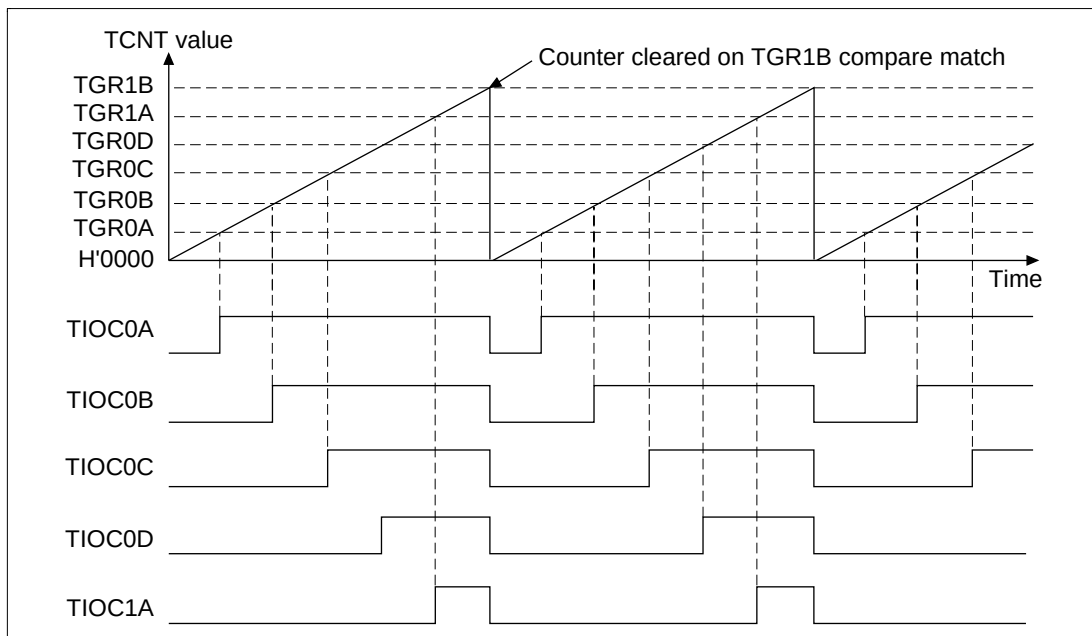

**Figure 12.26 PWM Mode Operation Example (Mode 2)**
**PWM Mode Operation Examples—PWM Mode 2 (Figure 12.26):** Channels 0 and 1 are set for synchronous operation, TGR1B register compare-match is used as a TCNT counter clear source, the other TGR register initial output value is 0 and output compare output value is 1, and a 5-phase PWM waveform is output. In this example, the value established in the TGR1B register becomes the period and the value established in the other TGR register becomes the duty cycle.